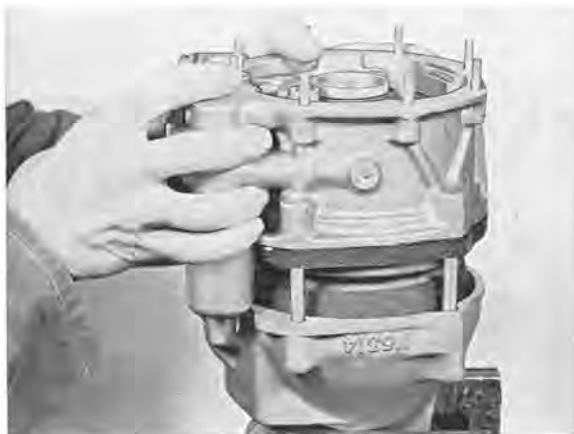

Fig. 4-49. Disassembling overdrive
3. Unscrew the nuts holding the brake ring, front and rear casing. Loosen the nuts successively all round in order to avoid any distortion from the springs. Lift off the front casing and brake ring, see Fig. 4-49.